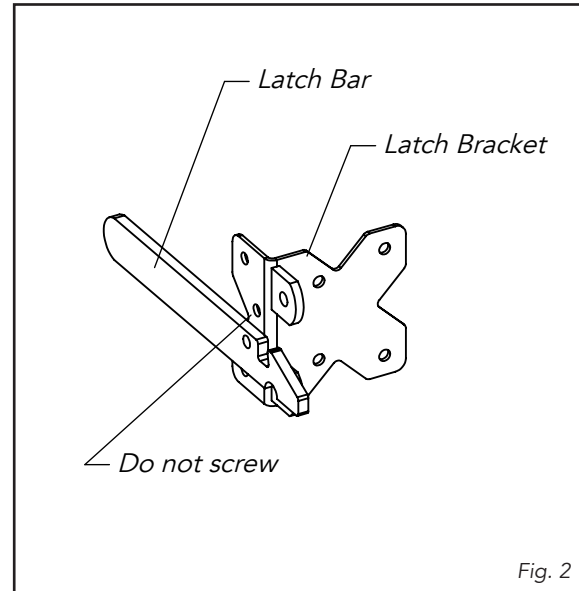

Fig. 2
1. The Two Way Latch is designed to fit both right-hand and left-hand applications. To conform to your application simply reverse the latch bar with receiving angle facing up and attach at bottom mounting hole of latch bracket with provided hardware, see (Fig. 2). Before installing latch, make sure fence post is vertical and firmly anchored. First, attach latch bracket to fence post at desired height (hand level recommended). If necessary use latch bracket as a template and mark all center points and drill pilot holes for easy installation; otherwise, fasten with mounting screws provided.